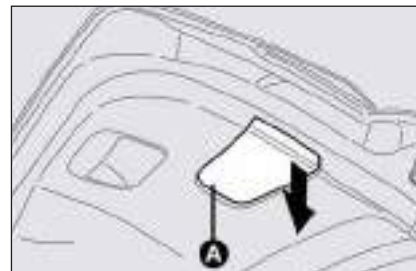
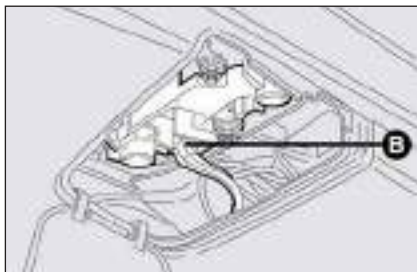

fig. 29
fig. 30
- push down cover **A-fig. 29** and remove electric connector **B-fig. 30**;